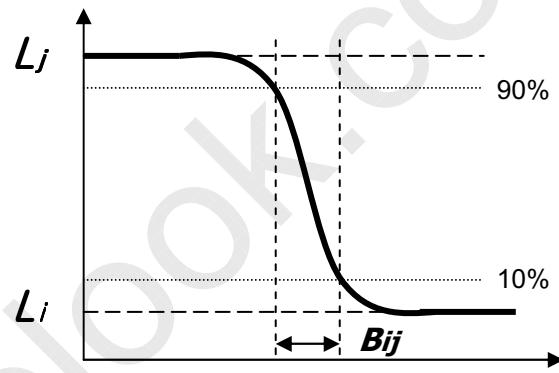

FIG. 4 MPRT
5. MPRT is defined as 10% to 90% blur-edge width $Bij(\text{pixels})$ and scroll speed $U(\text{pixels/frame})$ at the moving picture. For more information, see FIG 4